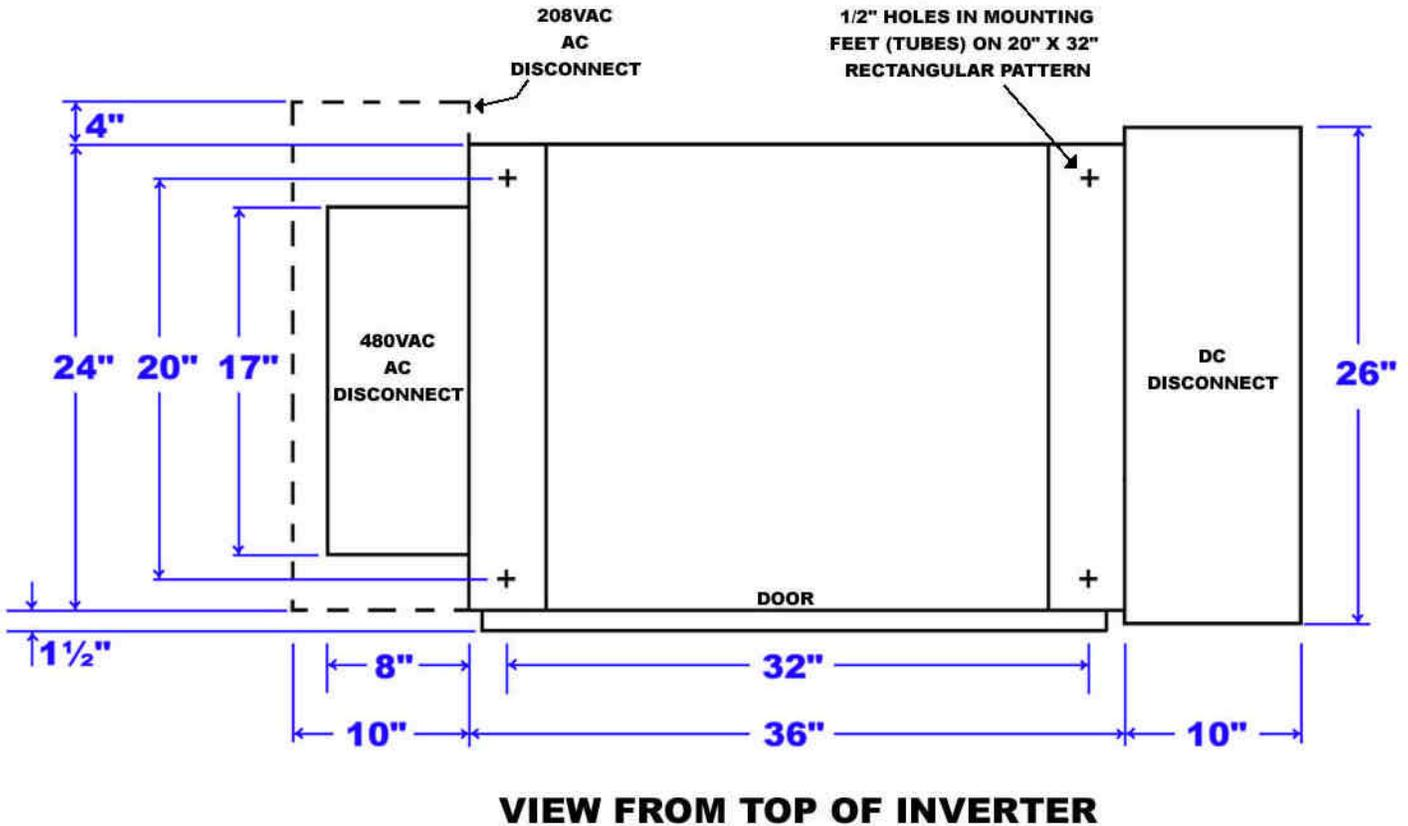

Fig. 2.2 PVI 60KW, PVI 77KW AND PVI 90KW Mounting Hole Diagram
- Install the inverter in an accessible location following NEC codes for enclosure and disconnect door clearances and proximity to other equipment. (See mounting diagram, Fig. 2.2)
Using the mounting diagram Fig. 2.2, choose whether floor/roof or concrete pad mounting will be used. The inverter includes mounting feet with 4 holes (1/2", 12mm diameter) on a 20" x 32" rectangular pattern for attaching the inverter. Note that these 4 mounting holes are 2" inside each corner of the main inverter enclosure dimensions which are 24" x 36".